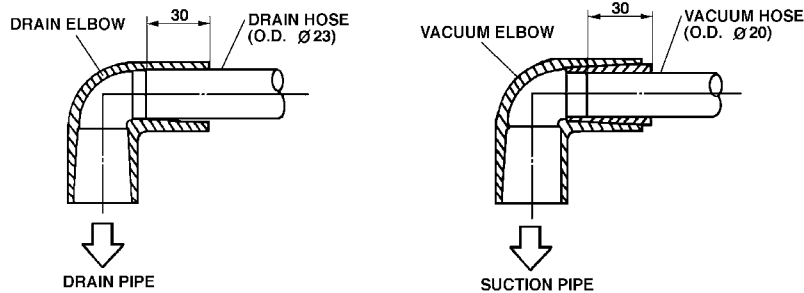

Fig.6-2 Connection of Drain and Vacuum Hoses for Central Vacuum Type
(1) Central vacuum type (Fig.6-2)